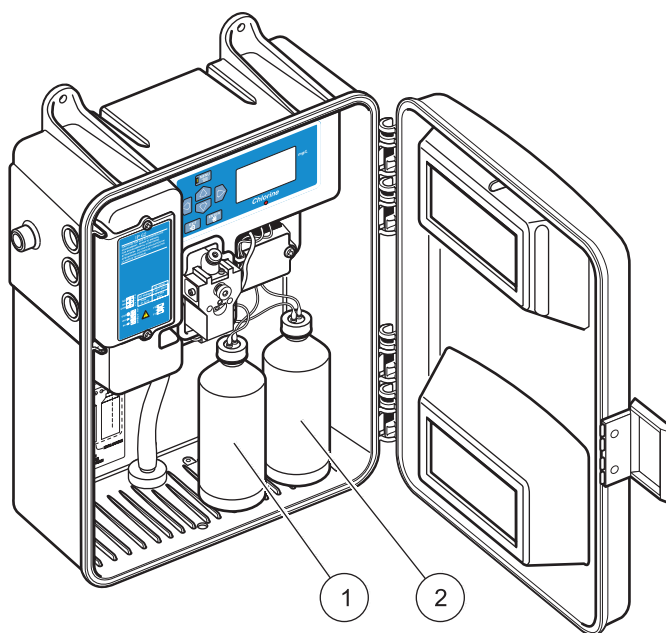

Figure 7 CL17 reagent location
- a. Prepare and install the reagents (Figure 7), stir magnet, and pinch plate. See the CL17 User Manual for detailed instructions.